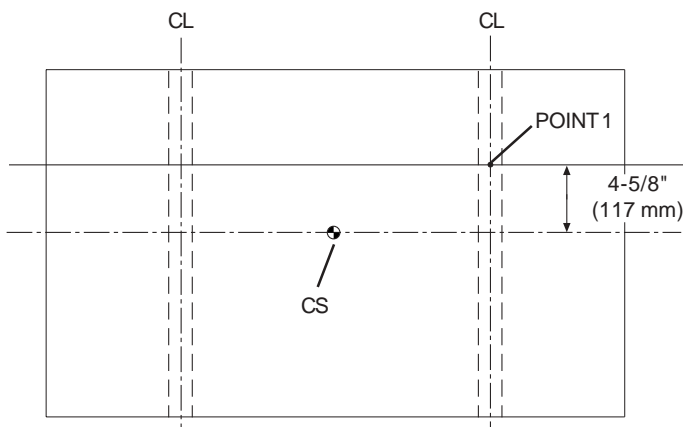
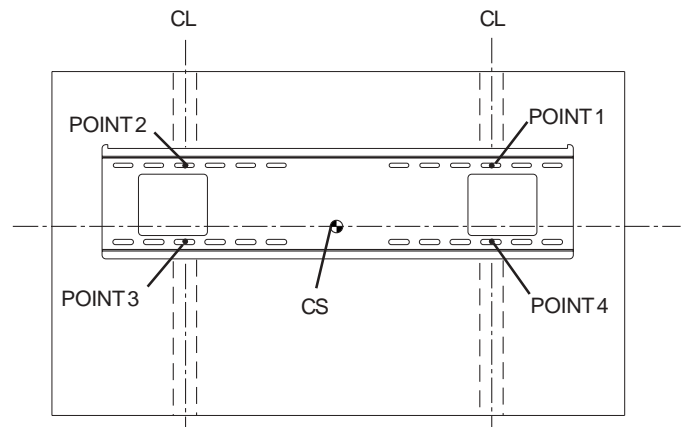

fig 1.1
fig 1.2
**1** Using a stud finder, locate the edges of the metal studs. Use of an edge-to-edge stud finder is highly recommended. Based on its edges and using a level, draw a vertical line down the center of each stud. Mark a point (**point 1**) on the right stud centerline 4-5/8" above the center of screen as shown in figure 1.1. Hold wall plate (**AA**) over point 1. Using a level to ensure plate is horizontal, mark three more points (**points 2,3, and 4**) as shown in figure 1.2.